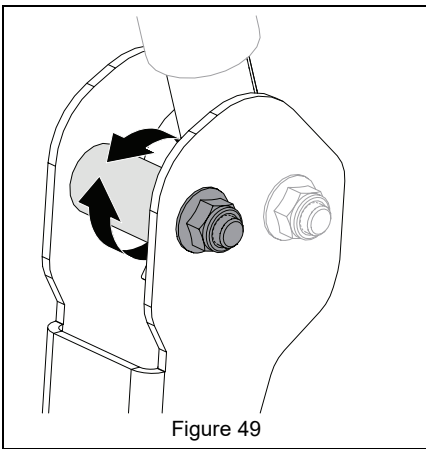

Figure 49
6. Adjust eccentric spacer so levers are at the same height and have a 1.3 cm – 2.5 cm (1/2" – 1") gap between lever ends. See Figure 49.